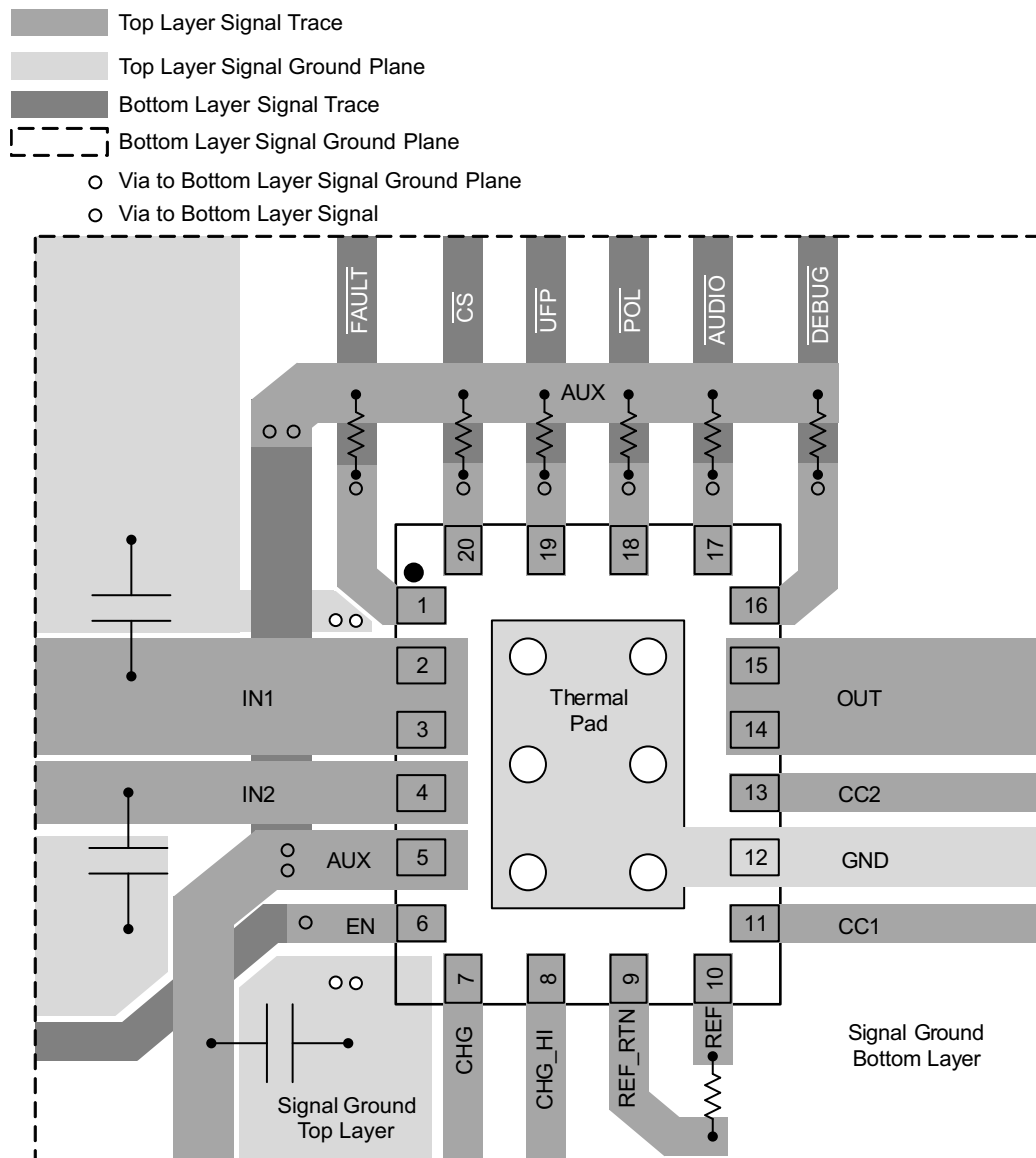

Figure 28. Layout Example
- Care must be taken to minimize the loop area formed by the bypass capacitor connection, the IN1 pin, and the GND pin of the device. See Figure 28 for a PCB layout example.
- The REF_RTN pin should be isolated from the GND plane. See Figure 28.